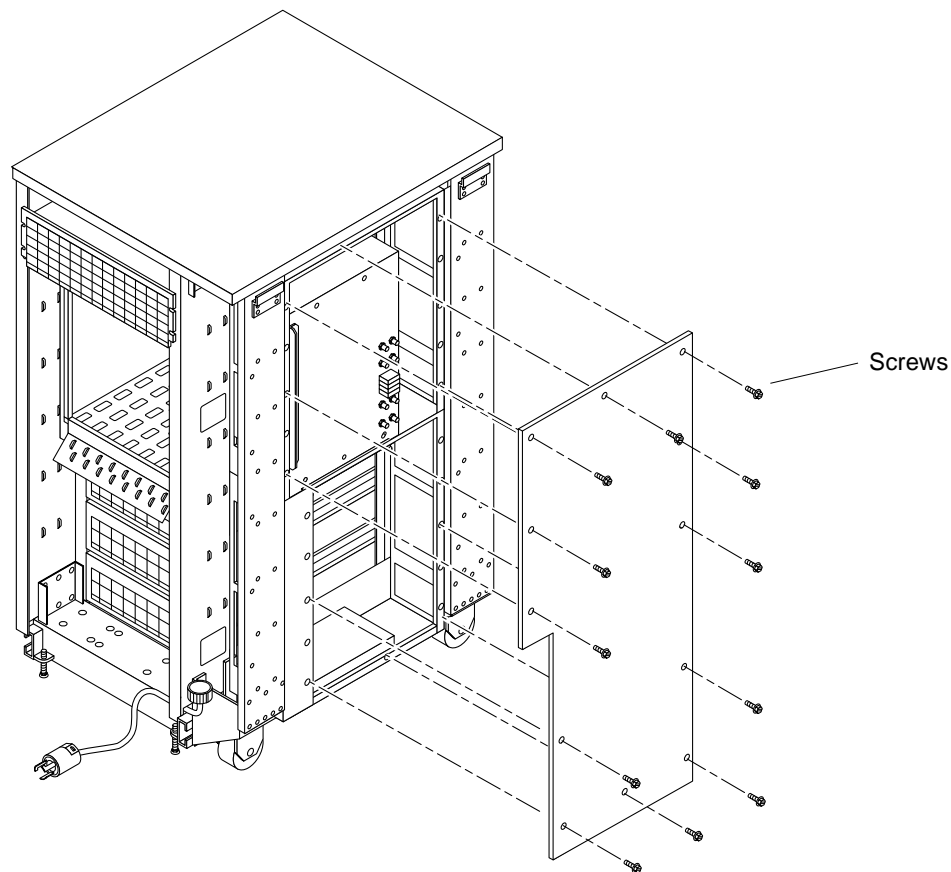

Figure 2-3 Removing the Power Supply Compartment EMI Panel
- The power supply cover panel on this chassis is long as shown in Figure 2-3. This panel reaches to the bottom of the frame. In contrast, the cover panel on the non redundant-capable chassis reaches about half the way down the frame
- 1. Remove the power supply compartment EMI panel Part No. 340-3134-xx covering both power supplies. See Figure 2-3.**